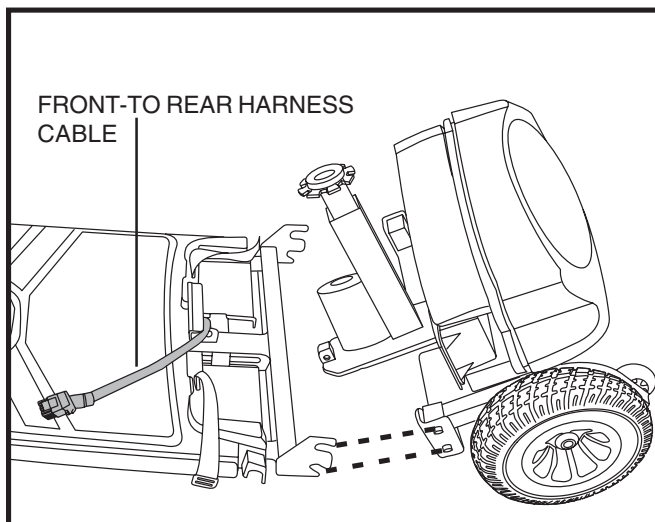

Figure 17. Frame Positioning
2. Position the front and rear sections of your scooter as shown in figure 17.